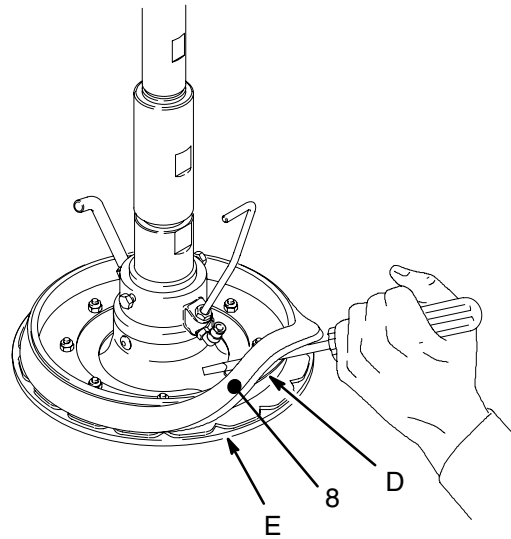
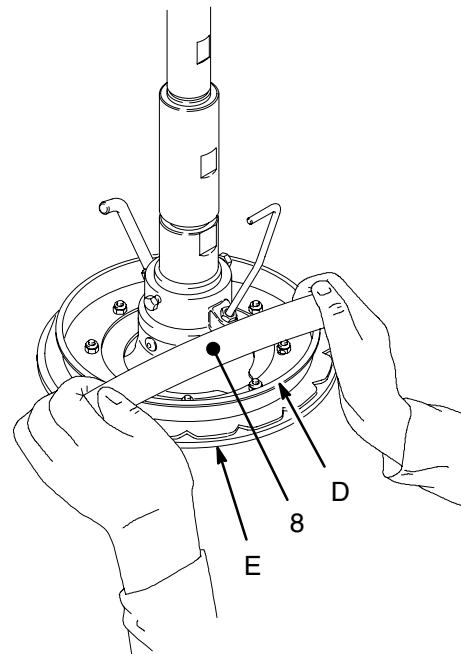

Fig. 14
Fig. 15
- a. **To use the wiper plate with straight sided pails**, the large spacer (8) must be inverted. *Working from the bottom*, use a screwdriver to pry the spacer loose. Work it upward so it is completely above the flange (D) of the wiper plate. See Fig. 14. Next, by hand, angle the spacer and work it off the plate, pulling it down over the flange and bottom wipers (E). See Fig. 15. Turn the spacer so the large diameter is facing **up**. Work the spacer up over the wiper plate by hand, so it is completely above the flange (D) of the wiper plate. *Working from the top*, use a screwdriver to position the spacer between the flange (D) and the wipers (E). See Fig. 16.
- b. **To use the wiper plate with tapered pails**, the large spacer (8) must be removed. *Working from the bottom*, use a screwdriver to pry the spacer loose. Work it upward so it is completely above the flange (D) of the wiper plate. See Fig. 14. Next, by hand, angle the spacer and work it off the plate, pulling it down over the flange and bottom wipers (E). See Fig. 15. Save the spacer, as it is required for other applications.
1 To use Model 222909 Plate with a tapered pail, the spacer (8) must be removed. See page 12, and Figs. 14–16.